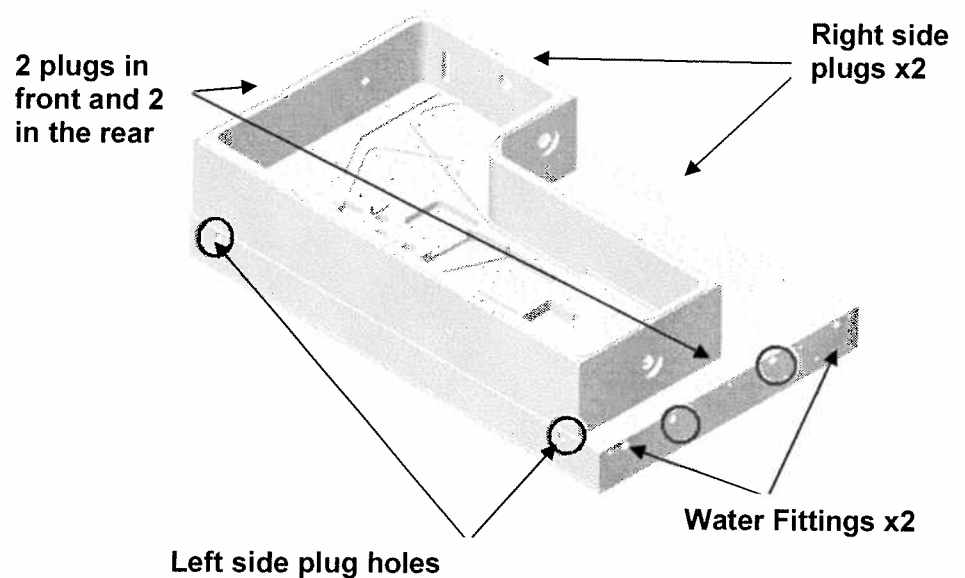

Fig 5.11-3
6. Remove the front and rear panels from the Chameleon and make sure you have access to all of the cooling block plugs(see *Fig 5.11-3*).
8. Remove each plug p/n 1001217 with a 6mm Flat Blade screw driver. There should be eight in all(see Fig 5.11-3).
9. Remove the two water fittings from the back of the Chameleon Head(see Fig 5.11-3)